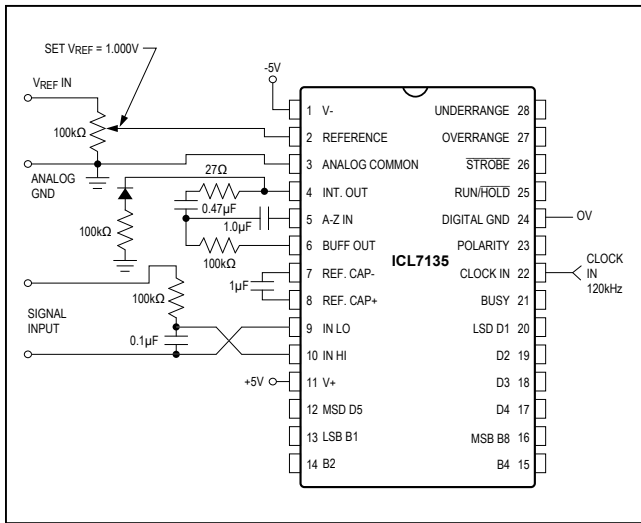

Figure 1. ICL7135 Test Circuit
- Note 1:** Tested in 4¹/₂ digit (20,000 count) circuit shown in Figure 1, clock frequency 120kHz.
Note 1: Tested in 4¹/₂ digit (20,000 count) circuit shown in Figure 1, clock frequency 120kHz.
The ICL7135 is tested for rollover using the circuit of Figure 1, with the 100kΩ resistor and diode in the circuit. The diode is noncritical, and is typically a low cost 1N4148. The resistor value is dependent on many factors including integrator swing, clock frequency, and the amount of rollover error due to “charge suckout” on the reference capacitor. 100kΩ is the optimum value for most circuits and is the value used in testing the ICL7135.